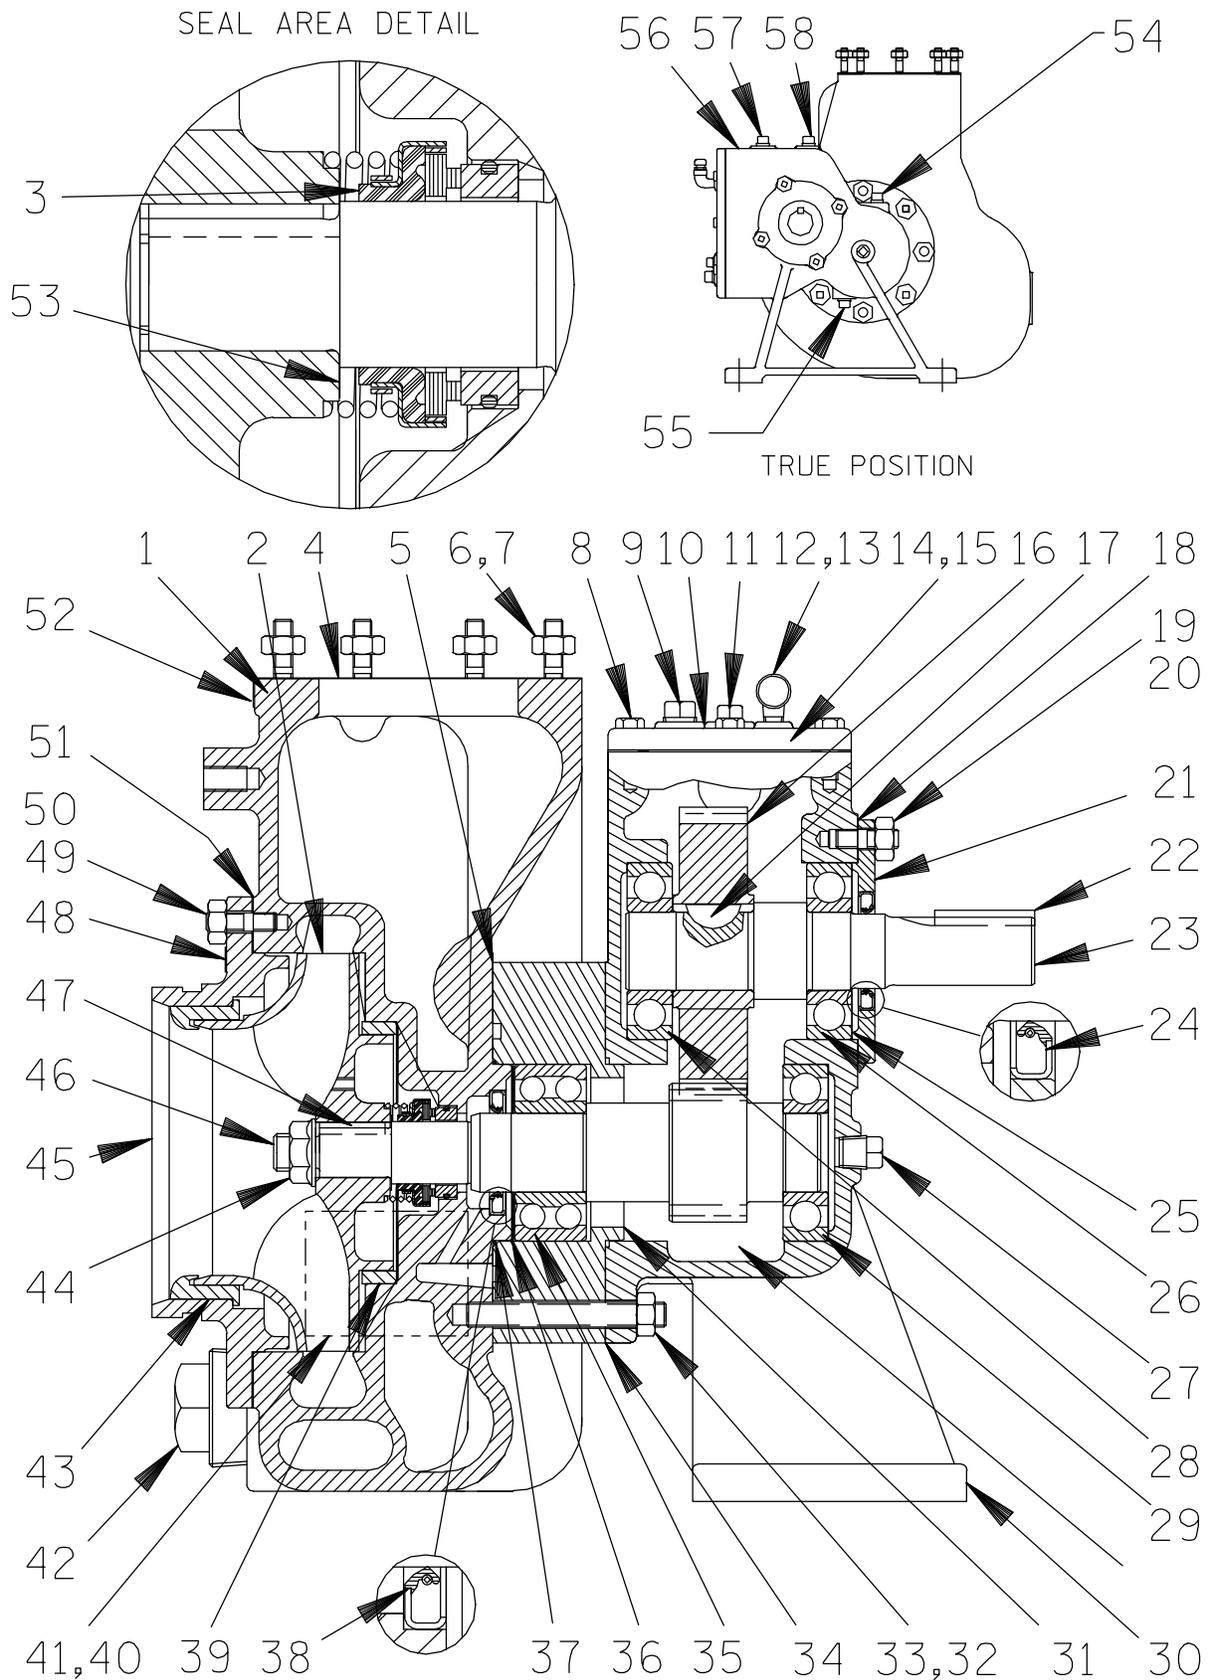

Figure 1. Pump Models 06D17-GAR
This pump requires little service due to its rugged, minimum-maintenance design. However, if it becomes necessary to inspect or replace the wearing parts, follow these instructions which are keyed to the sectional view (see Figure 1) and the accompanying parts list.
Position the oil seal (38) in the casing bore with the lip positioned as shown in Figure 1. Press the oil seal into the bore until fully seated against the bore shoulder.